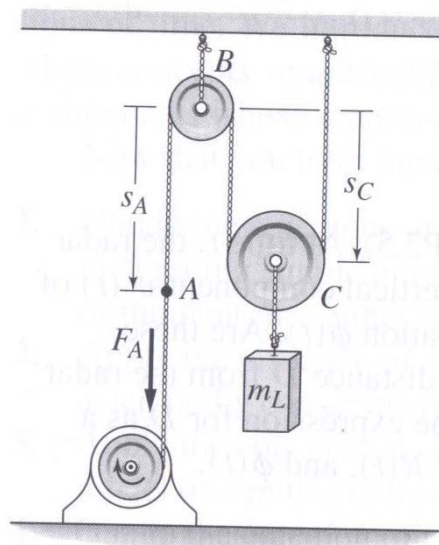

Figure 2
2. The motor in Figure 2 lifts the mass m_L by winding up the cable with a force F_A . The center of pulley B is fixed. The pulley inertias are I_B and I_C . Pulley C has mass m_c . Derive the equation of motion in terms of the speed v_A of point A on the cable with the force F_A as input.